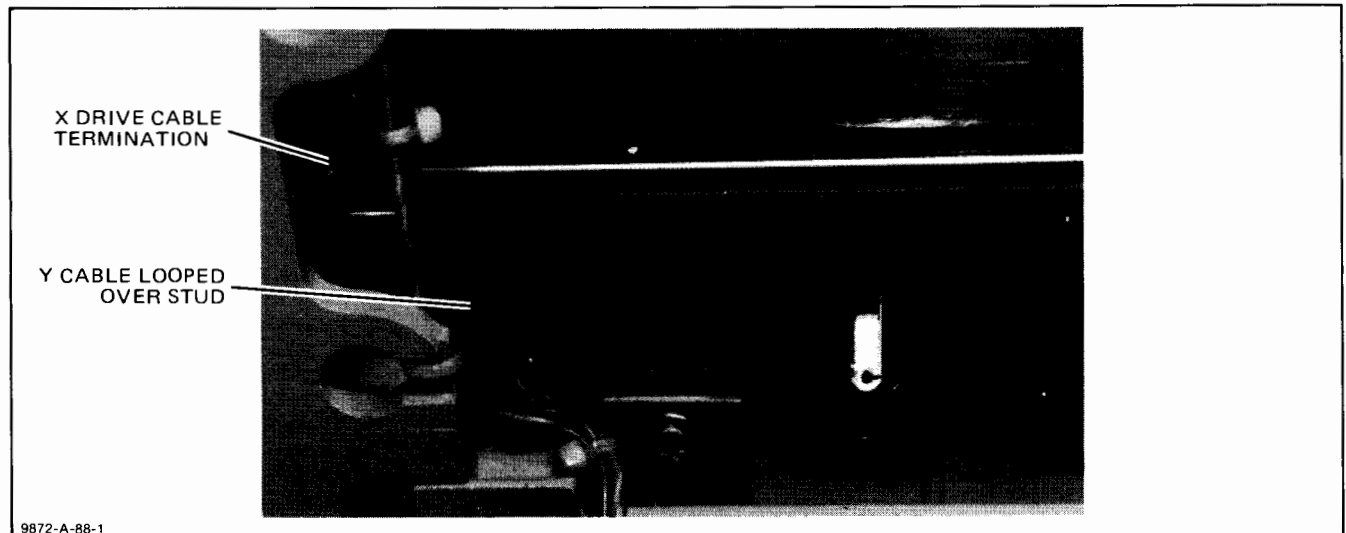

Figure 6-18. Cables Termination Bracket
- k. Unhook the Y-drive cable loop from the lower left stud. See Figure 6-18.